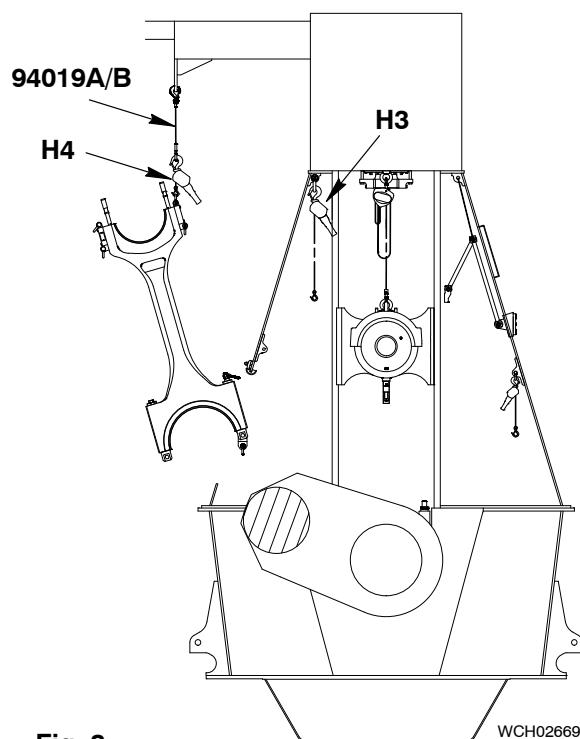

Fig. 8
- 26) Remove the manual ratchet (H3, Fig. 8) from the shackle (94018A) on the connecting element (94334A).